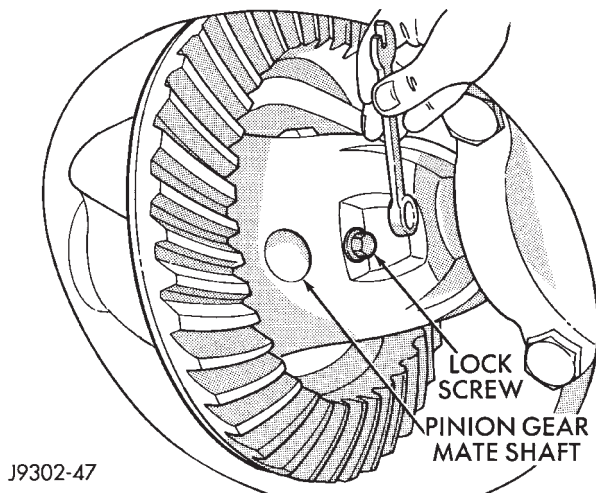

Fig. 6 Mate Shaft Lock Screw
(1) Raise and support the vehicle.
(2) Remove the wheel and tire.
(3) Remove the brake drum.
(4) Clean all the foreign material from housing cover area.
(5) Loosen the housing cover bolts. Drain the lubricant from the housing and the axle shaft tubes. Remove the housing cover.
(6) Rotate the differential case so that the pinion mate gear shaft lock screw is accessible. Remove the lock screw and the pinion mate gear shaft from the case (Fig. 6).